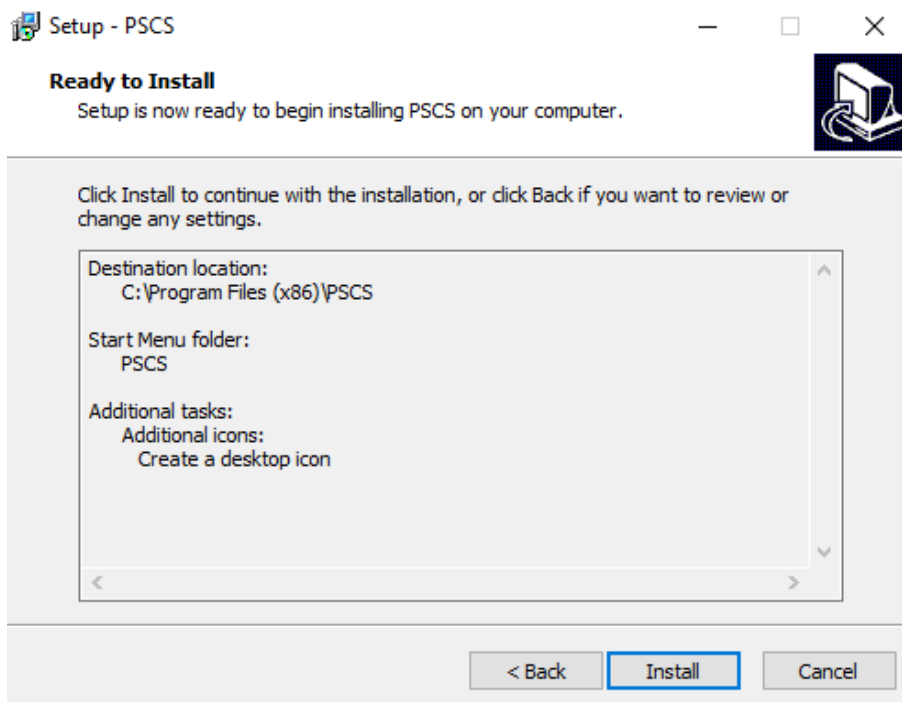

Figure 7.8
8. Click “Install” to begin installation. **Figure 7.8**